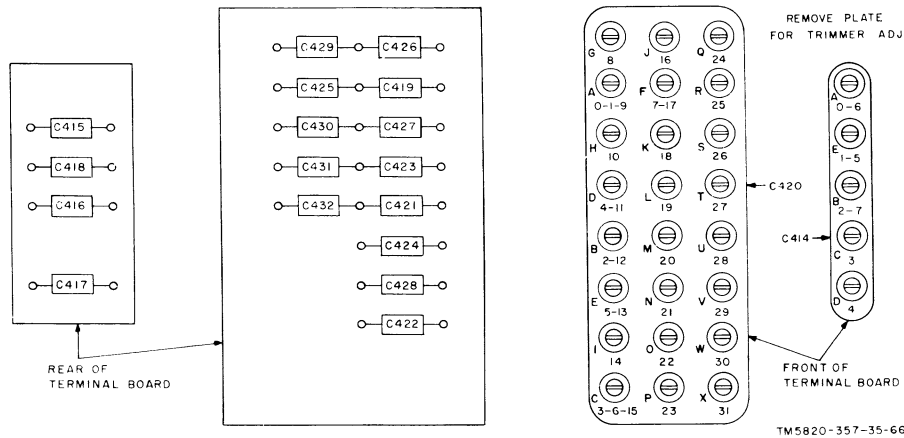

Figure 46. Location of crystal-oscillator tuning capacitors.
mers (large group of trimmers on rear panel (fig. 46)), using the chart below. Set the MEGACYCLE CHANGE control for a megacycle reading on the frequency indicator shown in the first column, and adjust the trimmer designated in the second column for the meter indication shown in the last column. Where a trimmer is used in the crystal-oscillator circuit at more than one frequency setting of the MEGACYCLE CHANGE control, it is listed only for the first setting and is adjusted for maximum only at this setting. For subsequent frequency setting of the MEGACYCLE CHANGE control involving a previously adjusted trimmer, check only for an indication on the TS-505(*)/U. If no indication is obtained, check the crystal-oscillator bandswitch.
e. Adjust the first crystal-oscillator trimmers (group of five trimmers on the rear panel (fig. 46)), using the chart below in the manner described in paragraph 77.